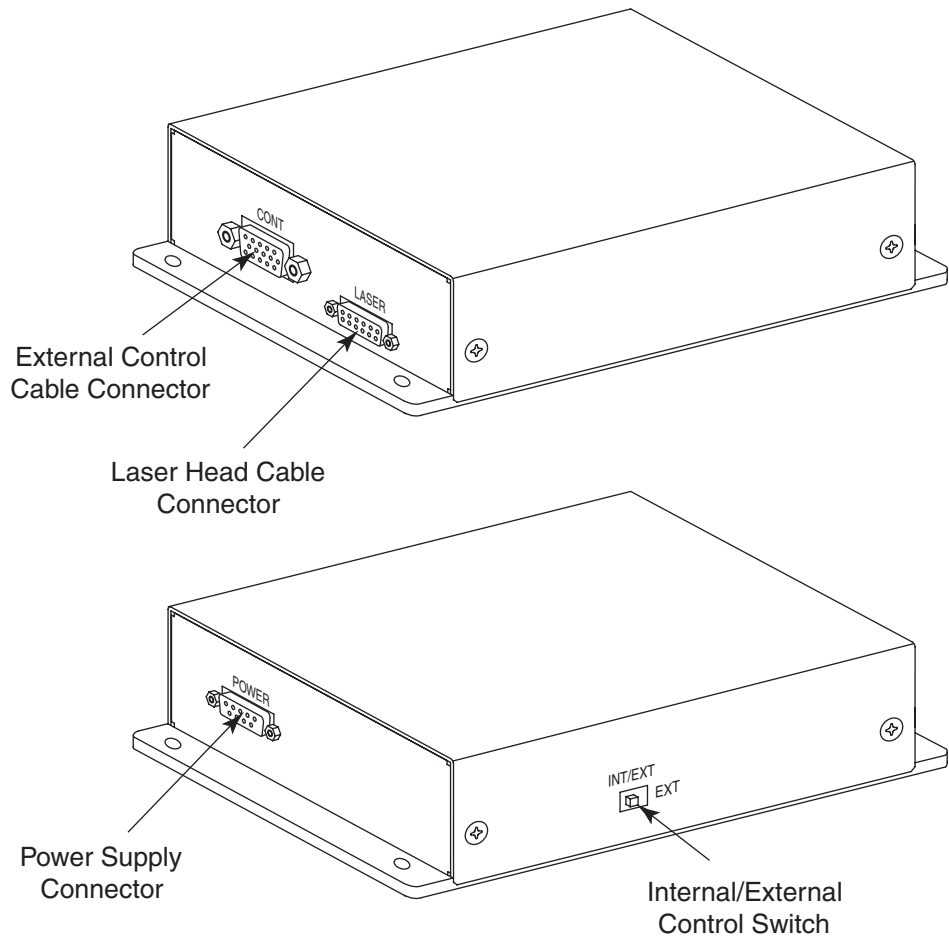

Figure 4-5: Excelsior Controller Connections
1. Connect the one meter long laser head cable to the connector on the *Excelsior* laser head. Refer to Figure 4-5.